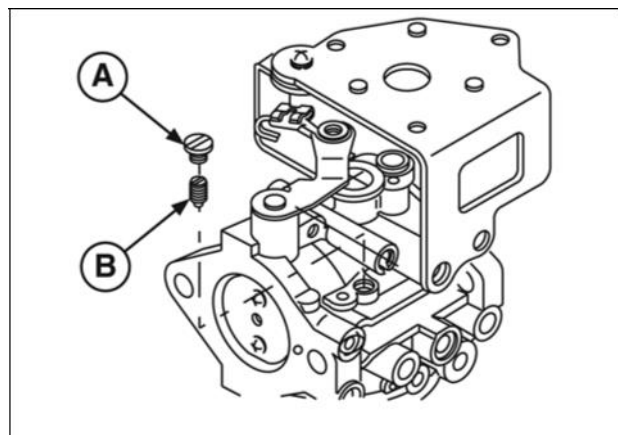

Figure 42
3. Install idle jet (A, Figure 42) and plug (B).